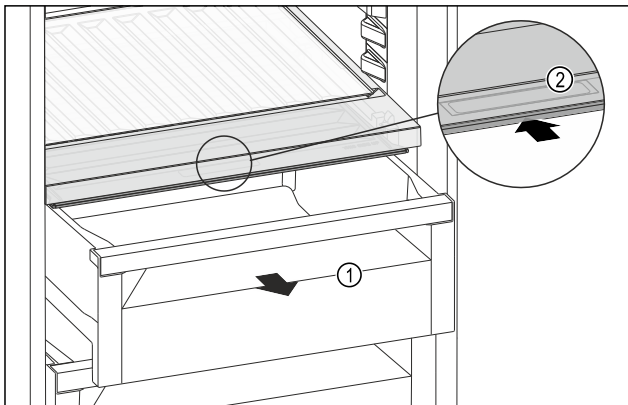

Fig. 211
- ▶ Pull out the drawer Fig. 211 (1).
- ▶ Grasp the recessed grip Fig. 211 (2) on the compartment lid and push the compartment lid backwards at the same time.